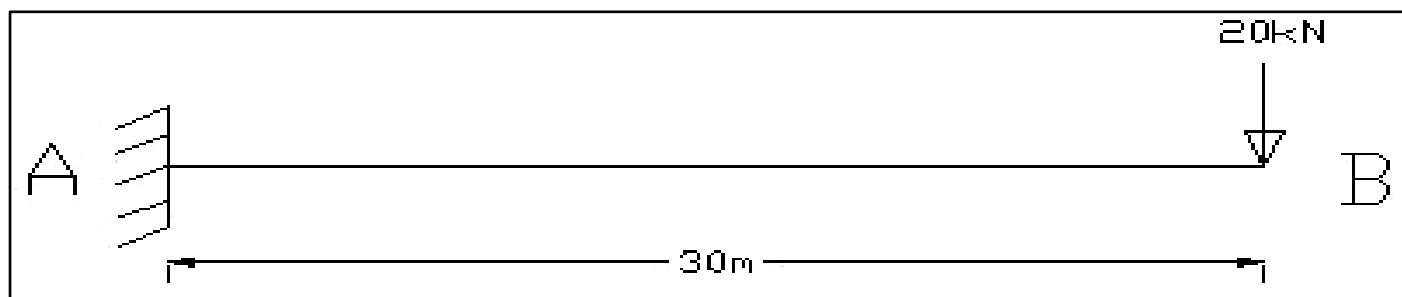

Fig. 5
9. A beam of span 30m carries a point load as shown in Fig.5. The moment of inertia (I) of the beam is assumed to be constant throughout. Evaluate slope and deflection at the free end and at the midpoint. Use conjugate beam method. Assume material to be uniform throughout.